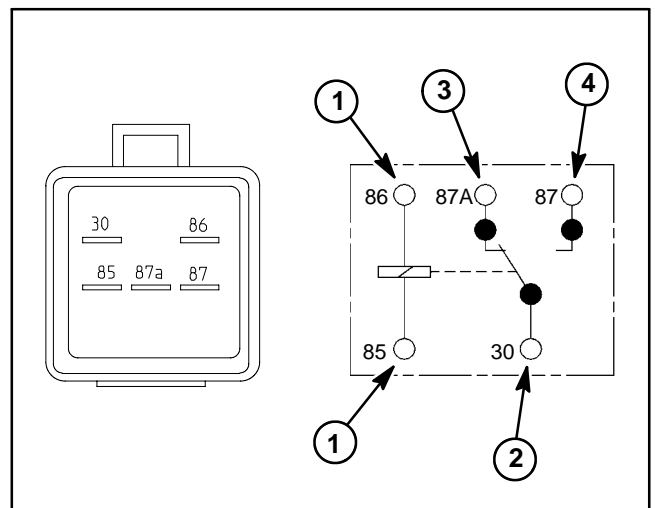

Figure 37
The start relay is located at the power center behind the operator seat. This relays is attached to the wire harness with a five (5) wire connector (Fig. 37).